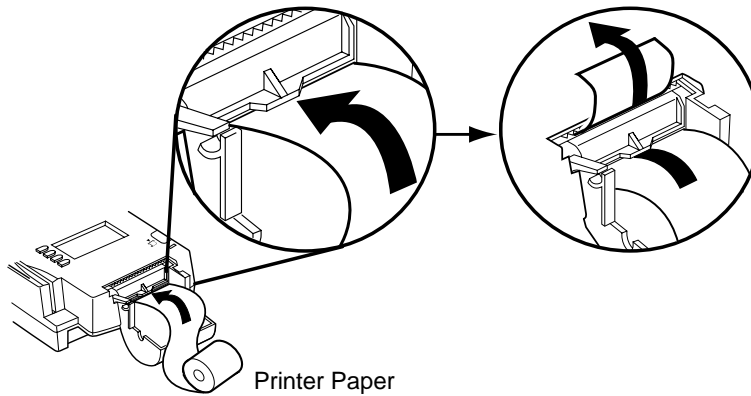

Figure 8 Loading Paper
4. Hold the roll so the paper feeds from the *bottom* of the roll and insert the cut end into the paper feed slot (Figure 8).